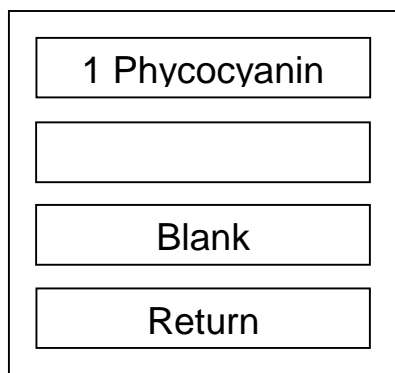

Figure 3. **Calibrate** screen
- c. Now enter the **“Calibrate”** screen similar to Fig. 3. Put in the Blank tube in the sample chamber and close the cap (the blank tube does not need to be filled with de-ionized water). Make certain your tube is clean of fingerprints/debris and is oriented so that you can re-insert it if need be in the exact same position. Touch **“Blank”** to take the blank value.